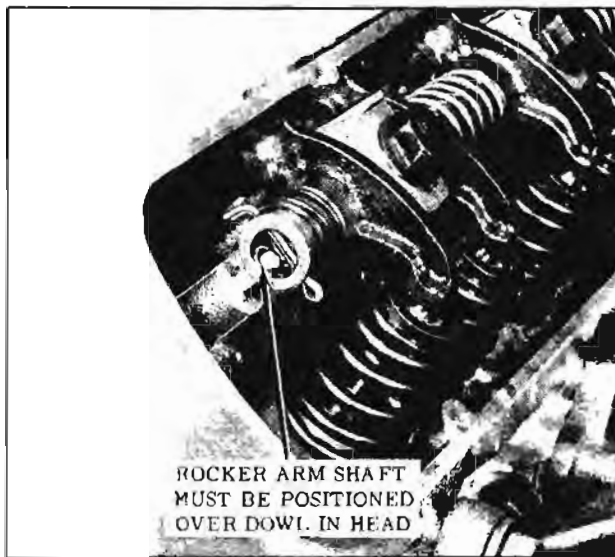

Fig. 8-109 Rocker Arm Shaft Position
1. Position rocker arm shaft assembly on cylinder head and align brackets with mounting bolts. Shaft goes on a dowel on head. (Fig. 8-109)